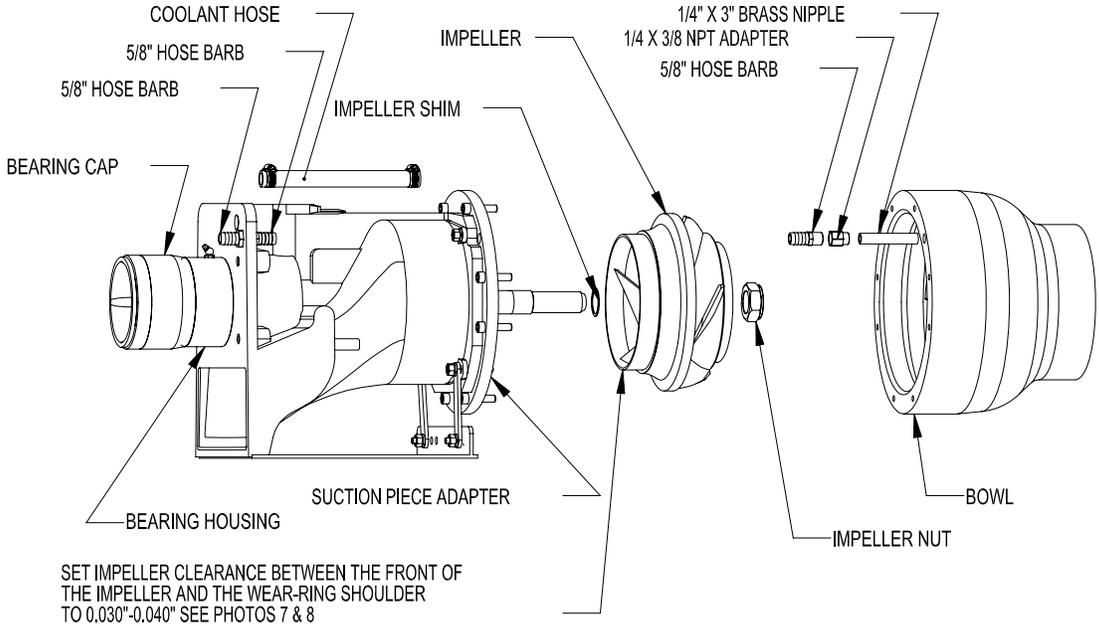

FIG 7
33. Install the impeller. Shim the impeller so that you have .030-.040 between the impeller and the wear-ring shoulder. PHOTOS 15 & 16, FIG 7 & 12
34. Install the impeller key, impeller, and nut then torque to 70 ft/lbs. Bolt the 2" x 18" flat bar to the end yoke to back up the impeller shaft. PHOTO 9, FIG 7
36. Install one end of the cooling hose on the hose barb (on the outside housing) secure with hose clamp. FIG 7